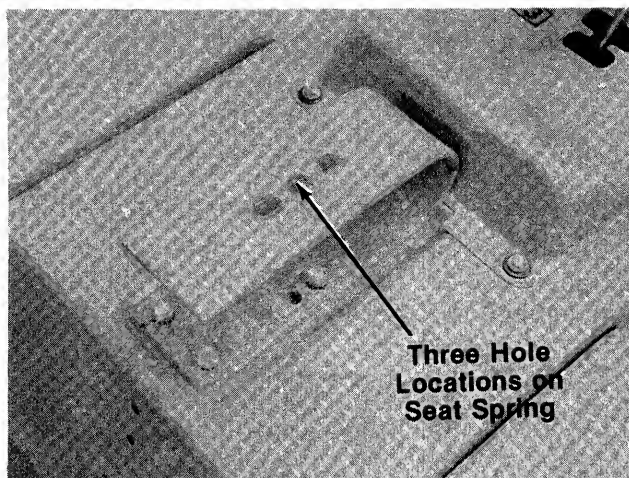

FIGURE 5.
5. The seat spring on the lawn tractor has three hole locations for mounting the seat (L). See figure 5.